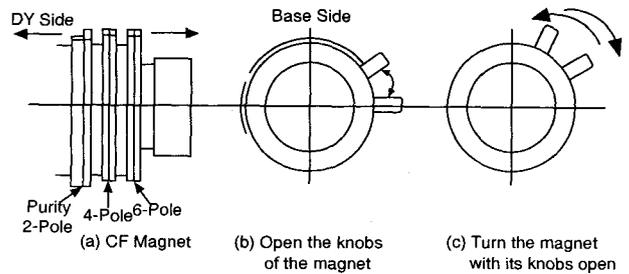

FIGURE 1-4-1
- (2) Open the knobs of 4-pole magnet (2 sheets) (Figure 1-4-1(b)) and match the blue/red vertical lines at the center of the screen as shown in Figure 1-4-2(a).
- (3) Turn the 4-pole magnet with its knobs open (Figure 1-4-1(c)) and match the blue/red horizontal lines as shown in Figure 1-4-2(b).